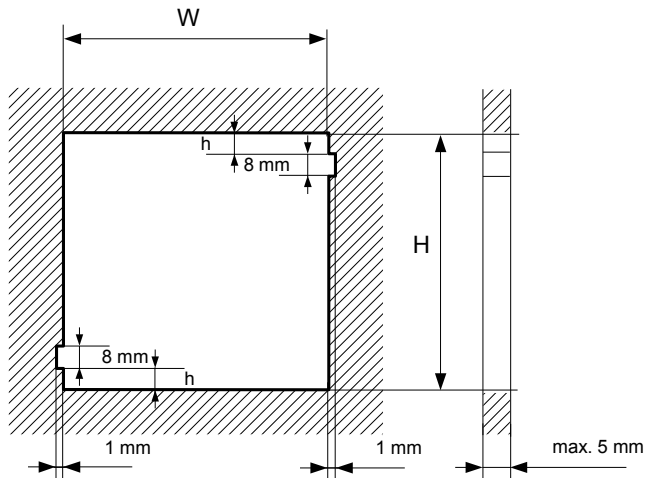
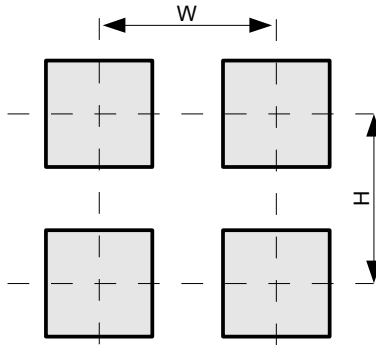
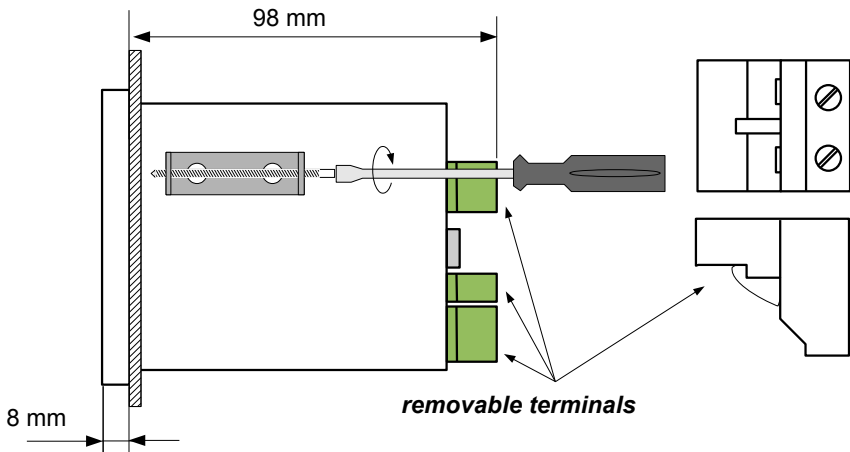

Fig. 4.2. Mounting hole dimensions
Fig. 4.3. Minimum distances to assemble a number of units
Fig. 4.4. Brackets installation
- In order to install the unit, a mounting hole must be prepared in accordance with **Fig. 4.4**. The thickness of the material the panel is made of must not exceed 5mm. While preparing the mounting hole take the grooves for catches located on both sides of the housing into consideration (**Fig. 4.4**). Place the unit in the mounting hole inserting it from the front side of the panel, and then fix it using the brackets (**Fig. 4.2**). The minimum distances between the centre points of multiple units - due to the thermal and mechanical conditions of operation - are shown in **Fig. 4.3**.